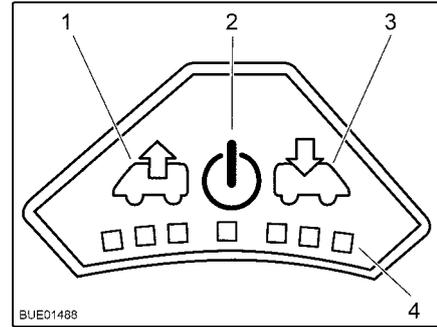

Fig. 128 Control panel for fan
Switching on: ■ Press the On/Off button (Fig. 128,2). The fan runs in comfort mode (venting at slowest fan speed).
Venting: ■ To increase the fan speed: Press the Vent button (Fig. 128,1). The fan speed in the venting direction increases by one level. LEDs (Fig. 128,4) show the operating levels.
■ To lower the fan speed: Press the Aerate button (Fig. 128,3). The fan speed decreases by one level.
Aerating: ■ To increase the fan speed: Press the Aerate button (Fig. 128,3). The fan speed in the aerating direction increases by one step. LEDs (Fig. 128,4) show the operating levels.
■ To lower the fan speed: Press the Vent button (Fig. 128,1). The fan speed decreases by one level.
- Press the On/Off button (Fig. 128,2). The fan stops, the LEDs go out.